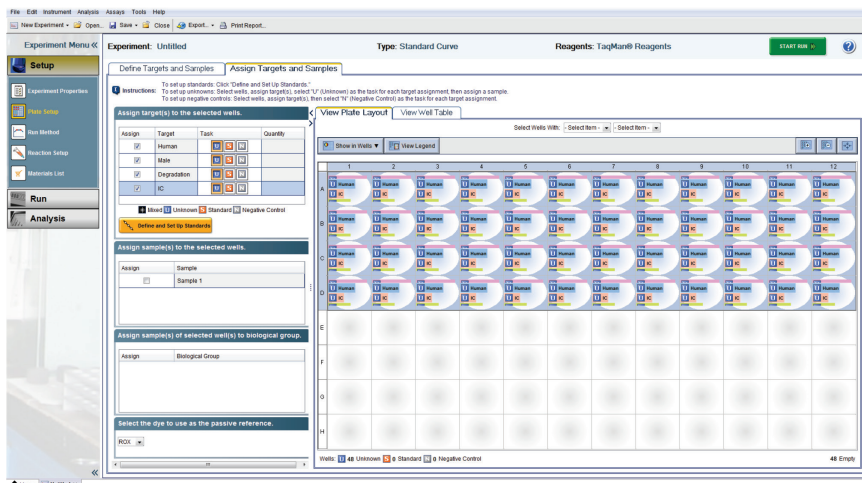

Figure 28. Assigning the Targets.
14. Switch to the tab **Assign Targets and Samples**. In the **Plate Layout**, select the wells in use and assign all four Targets by checking the boxes (Figure 28).